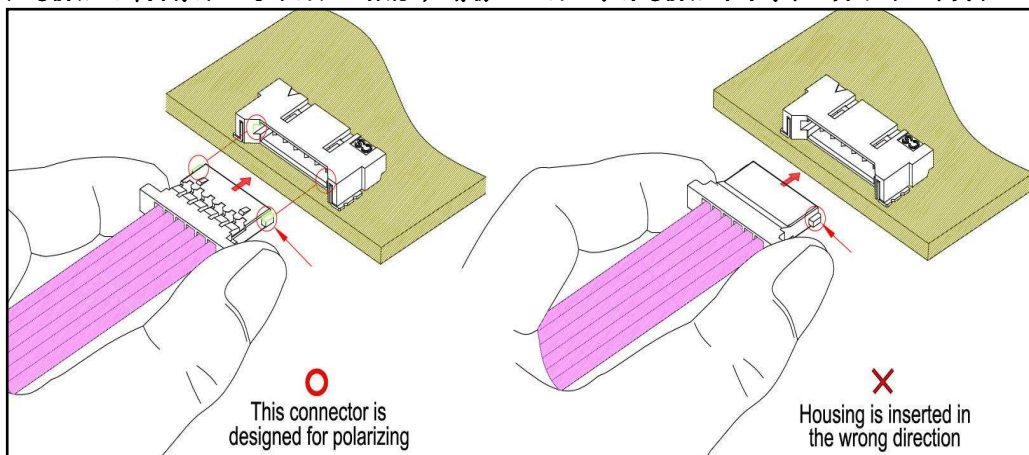

figure 3.1
- ※ This connector is designed for polarizing. Please be careful on the direction of the housing insertion. (see figure 3.1)